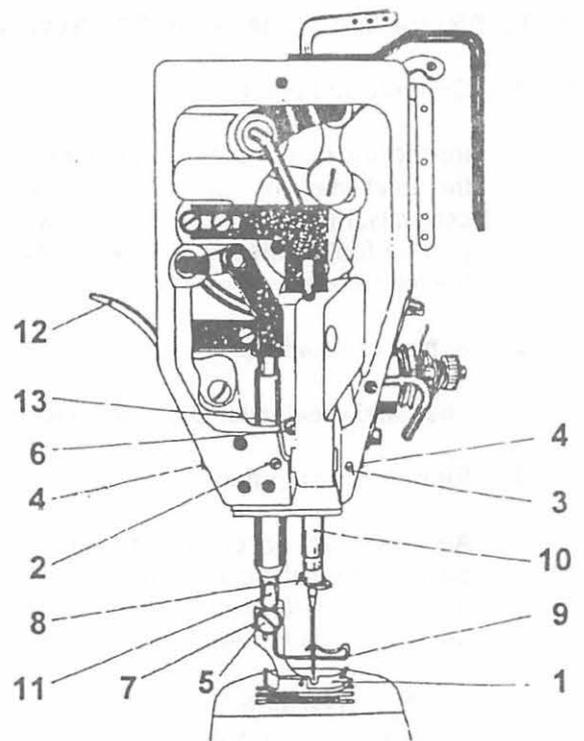

Fig. 4
**5. To lift the presser foot (Fig. 4)**
### 7. To insert the needle (Fig. 4)
**8. To adjust in height the needle bar (Fig. 4)**
14. To exchange the presser foot (Fig. 4)
**16. To adjust the needle punches longitudinally into the centre of the slot of the throat plate (Fig. 4)**